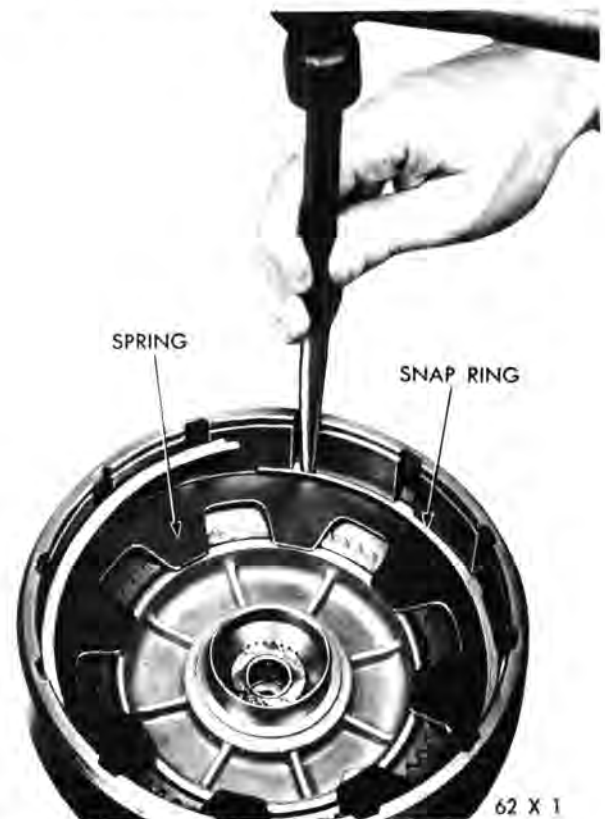
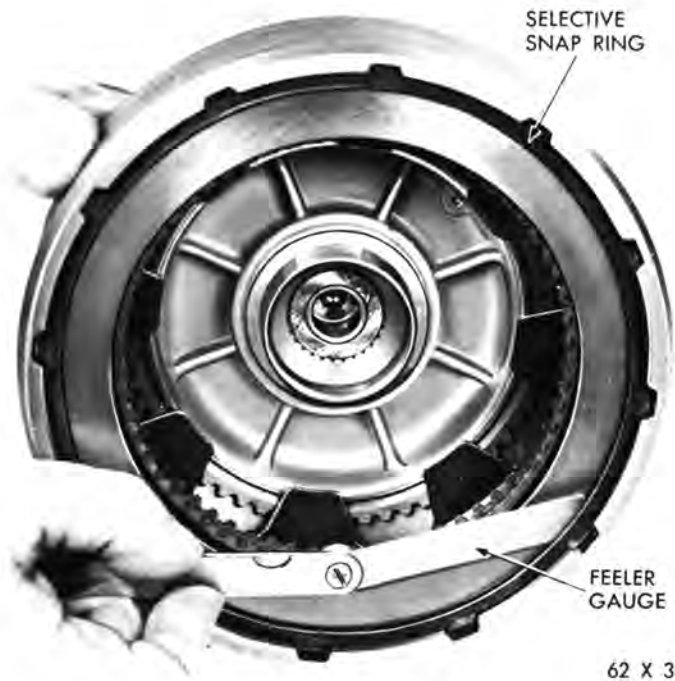

Fig. 98—Installing Rear Clutch Spring and Snap Ring
Fig. 99—Measuring Rear Clutch Plate Clearance
(1) If removed, press the input shaft into the piston retainer and install the snap ring.
(2) Lubricate and install the inner and outer seal rings on the clutch piston. Make sure the lip of the seals face toward head of the clutch retainer, and are properly seated in the piston grooves.
(3) Place piston assembly in the retainer and, with a twisting motion, seat the piston in the bottom of the retainer.
(4) Place the spring over the piston with outer edge of spring positioned below the snap ring groove. Start one end of the snap ring in the groove, make sure the spring is exactly centered on the piston, then progressively tap the snap ring into the groove (Fig. 98). Be sure the snap ring is fully seated in the groove.
(5) Install the inner pressure plate in the clutch retainer with raised portion of plate resting on the spring.
(6) Lubricate all clutch plates, install one lined plate followed by a steel plate until all the plates are installed. Install the outer pressure plate and snap ring.
(7) With the rear clutch completely assembled, insert a feeler gauge between the pressure plate and snap ring (Fig. 99). The clearance should be between
(1) If removed, press the input shaft into the clutch piston retainer and install the snap ring.
(2) Lubricate and install the inner and outer seal rings on the clutch piston. Make sure the lip of the seals face toward the head of the clutch retainer, and are properly seated in the piston grooves.
(3) Place the piston assembly in the retainer and, with a twisting motion, seat the piston in bottom of the retainer.
(4) Position the clutch retainer over the piston retainer splines and support the assembly so the clutch retainer remains in place.
(5) Place the spring over the piston with outer edge of spring positioned below the snap ring groove. Start one end of the snap ring in the groove, make sure the spring is exactly centered on the piston, then progressively tap the snap ring into the groove (Fig. 98). Be sure the snap ring is fully seated in the groove.
(6) Install the inner pressure plate in the clutch retainer with raised portion of the plate resting on the spring.
(7) Lubricate all the clutch plates, install one lined plate followed by a steel plate until all the plates are installed. Install the outer pressure plate and snap ring.
(8) With the rear clutch completely assembled, insert a feeler gauge between the pressure plate and snap ring (Fig. 99). The clearance should be .022-.042 inch for the three-disc clutch and .026-.054 inch for the four-disc clutch. If not, install a snap ring of proper thickness to obtain the specified clearance. Low limit clearances are desirable.